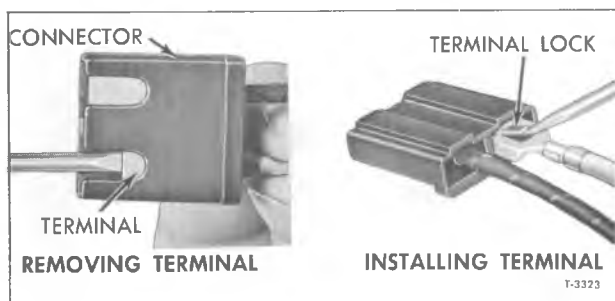

Figure 1—Replacing Blade Type Connector Terminals
1. To remove a blade-type terminal from the connector, disengage lock tangs and separate connector. Insert a thin bladed instrument under mating end of connector terminal and pry up on terminal being careful not to damage connector. Pull wire and terminal from connector as shown in figure 1.